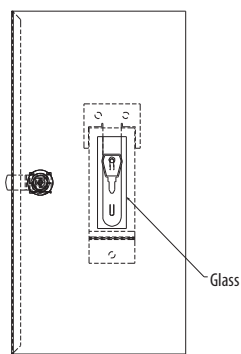

Fig. 2
- Slide the glass into the guide so that the key is behind it - Fig. 2